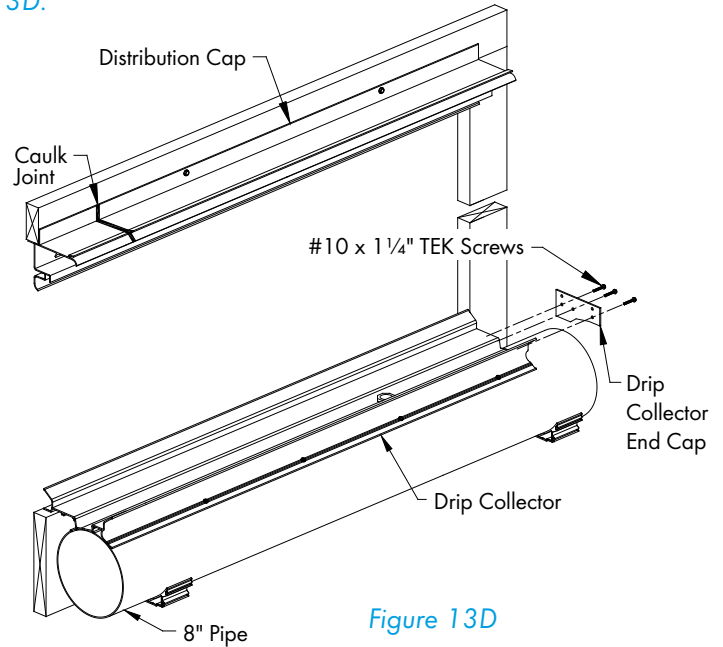

Figure 13D
On right side of system apply PVC cement to end of Drip Collector and line up the 3 holes in the Drip Collector End Cap to the 'U' Channels in the Drip Collector, fasten using (3) #10 x 1 1/4" TEK Screws (provided). See Figure 13D.
Slide right End Panel into framing and into Drip Collector on right end. End Panel should fit snug, make sure ribs sit down tight into the Drip Collector. Fasten the last 2 screws into the Drip Collector End Cap using (2) 10 x 1 1/4" TEK Screws. See Figure 13D.